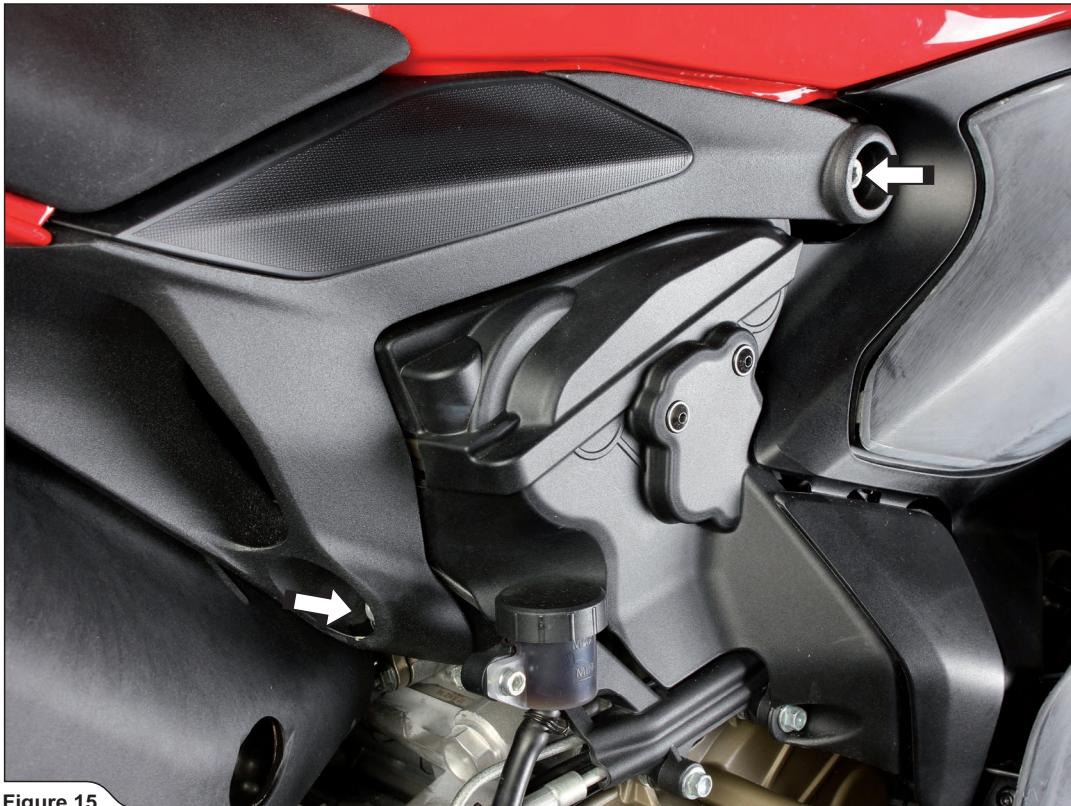

Figure 15
- Remove the rider's seat and unscrew the marked sub frame bolts on both sides of the motorcycle (Figure 15).